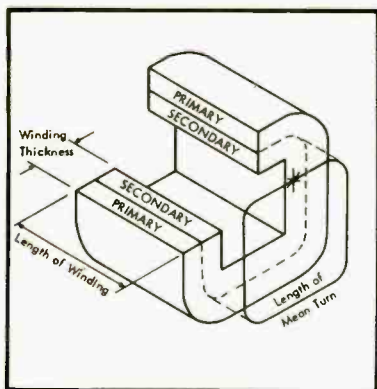

Fig. 6. Section of simple double winding, without core, to show dimensions relevant to leakage inductance value.
These dimensions are illustrated in Fig. 6. Now let's take a typical geometrically balanced well mixed transformer, of the arrangement shown at (A) in Fig. 7, as compared with the arrangement in (B). The arrangement of (A) employs a split bobbin or two separate bobbins to accommodate the windings; that of (B) accommodates the winding on a single bobbin, and necessitates a lower number of sections.